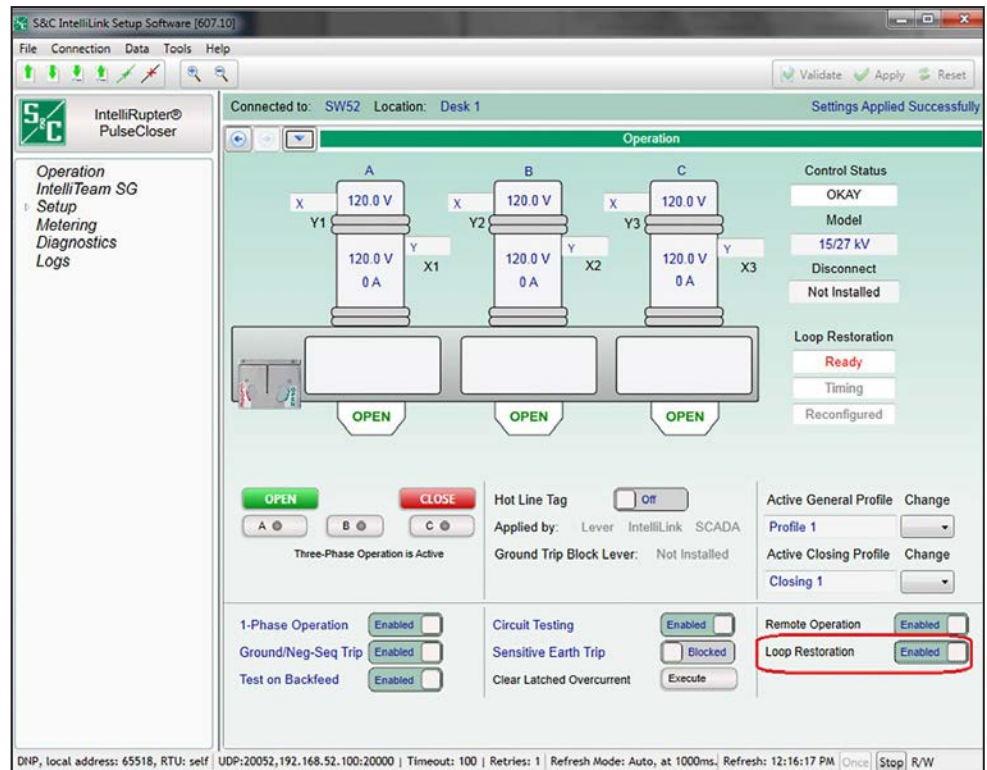

Figure 90. An *Operation* screen command can enable or disable the Loop Restoration mode.
- The **Loop Restoration** mode can be enabled or disabled with an IntelliLink software command on the *Operation* screen. See Figure 90 on page 175.